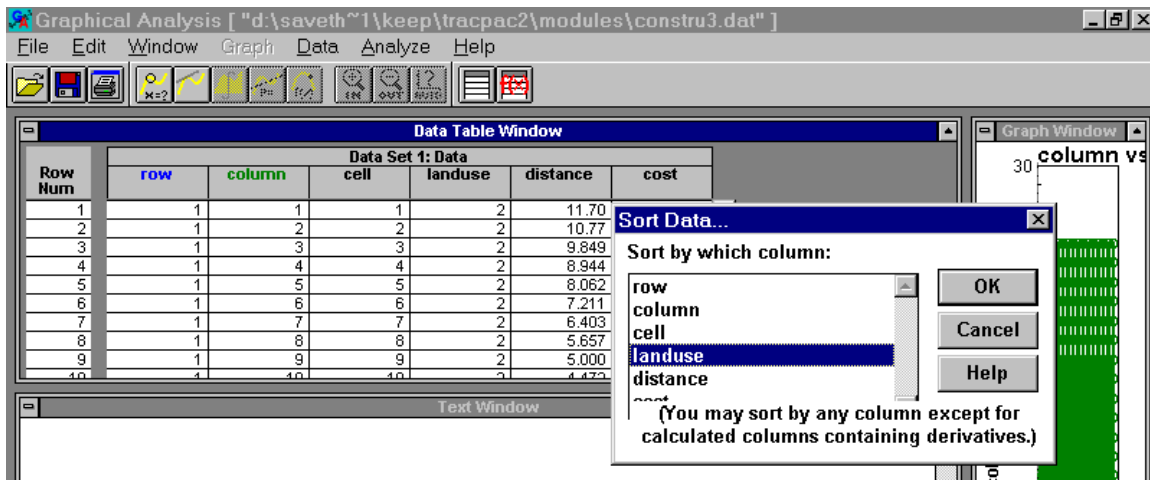

Figure 3: Sorting the Cells by Land Use in Graphical Analysis
Step 1: Sort the data by some variable. (In this example, we sort the data by landuse, by going to Data/Sort and choosing the variable landuse as shown in Figure 3 below.